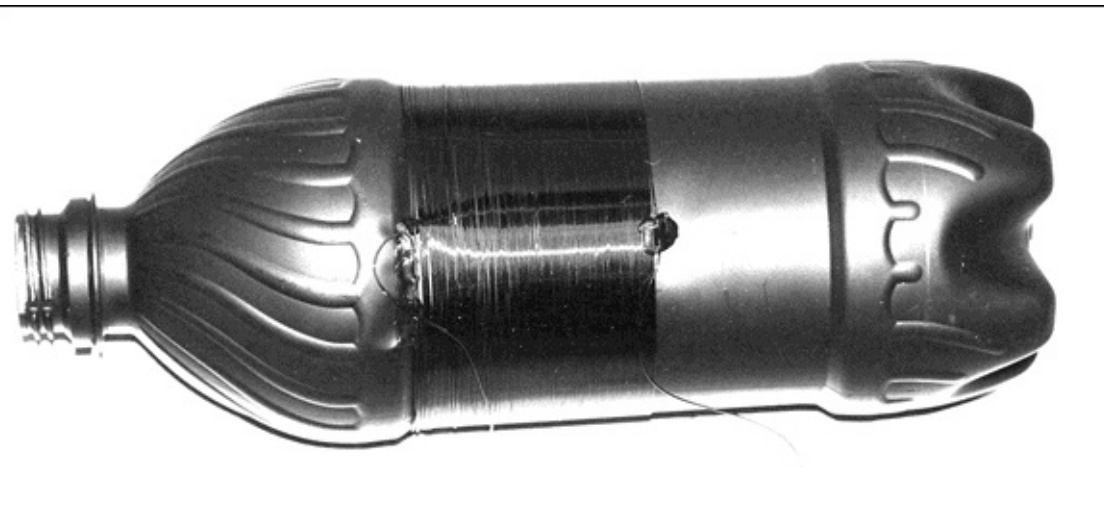

FIGURE 3-10: A coil wound on an empty soda bottle.
- An empty 16-ounce soda bottle. That's what I used for the radio built in this chapter. To make the coil look better, you may first want to spray-paint the bottle with black paint. See Figure 3-10 . (Don't use metallic paint!)